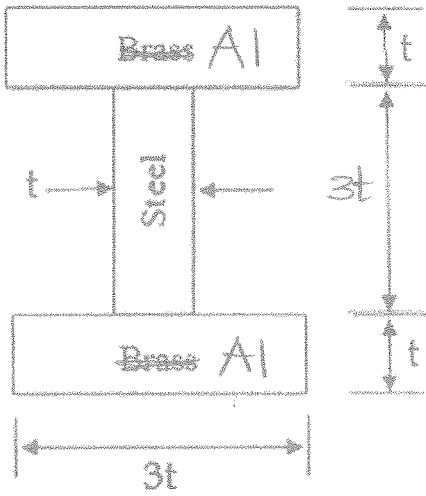

Fig. Q1
- b) A composite beam, spans 4m and is simply supported at its ends, carries a 40 kN point load at its mid-span. The beam is formed by securely welding two flange plates made in aluminum to a steel web plate. The cross section of the beam is proportioned as shown in Fig. Q1. The modulus of elasticity for the aluminum and steel are 70 GPa and 210 GPa, whereas the allowable bending stresses 100 MPa and 160 MPa, respectively.